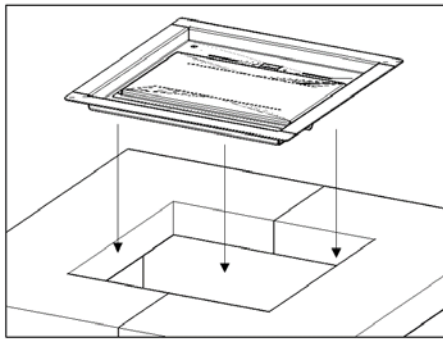

FIGURE 8
3. Drop the table burner into the cavity. **Figure 8 & 9**
5. Drop burner into the cavity. **Figure 8 & 9**